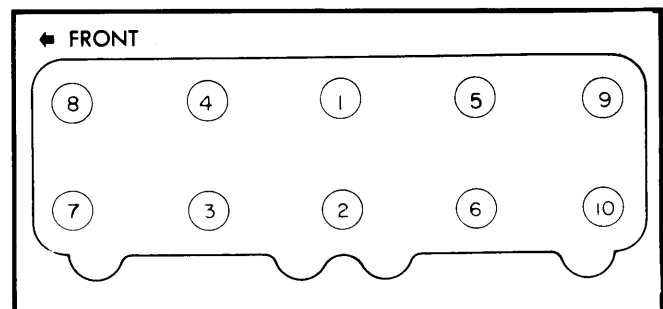

Fig. 3 Cylinder Head Bolt Tightening Sequence
3) Using tightening sequence shown in Fig. 3, tighten head bolts to 36 ft. lbs. (5.0 mkg) and rocker shaft nuts to 11 ft. lbs. (1.5 mkg). Place angular head torquing tool (8.0129) on 2 center bolts (1 and 2). Completely loosen No. 1 bolt and retorque it to 14 ft. lbs. (2.0 mkg). Keep tool in place and maintain tension on torque wrench.